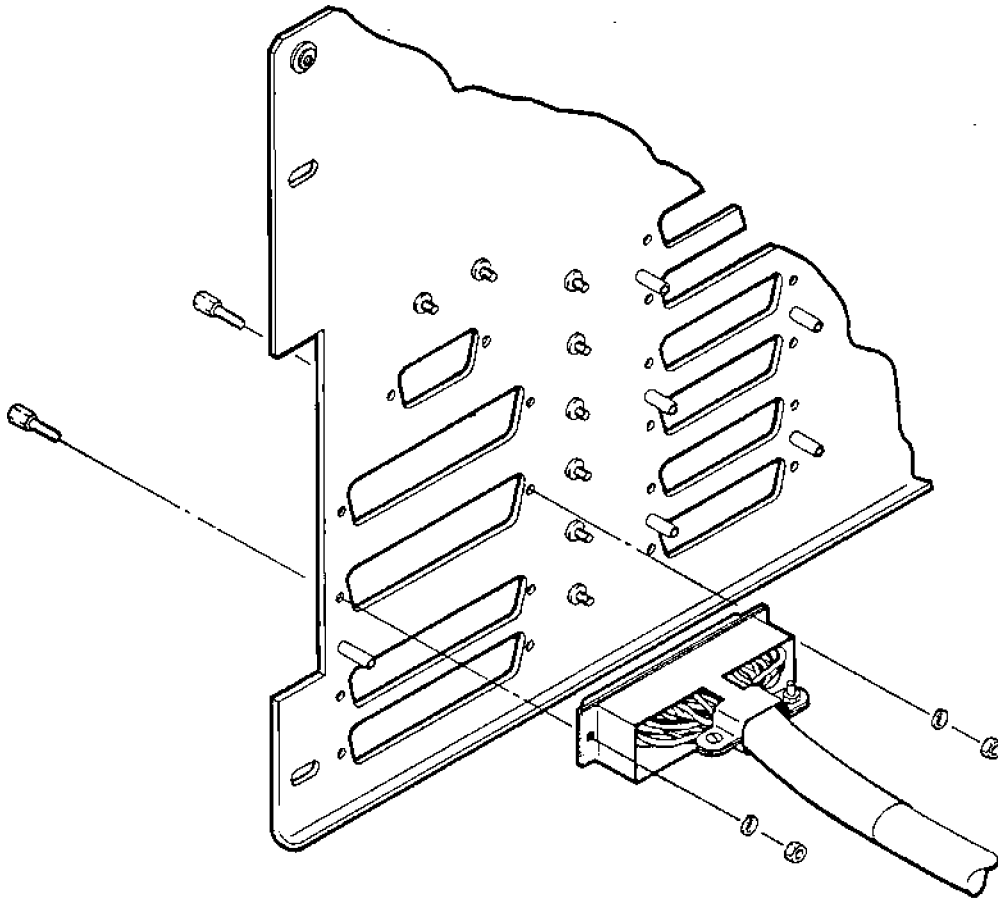

Figure 2-2. Internal Cable Mounting
2. Mount the internal cable assembly's P10 connector to the inside of the rear panel's J10 connector cutout (see figure 2-2).